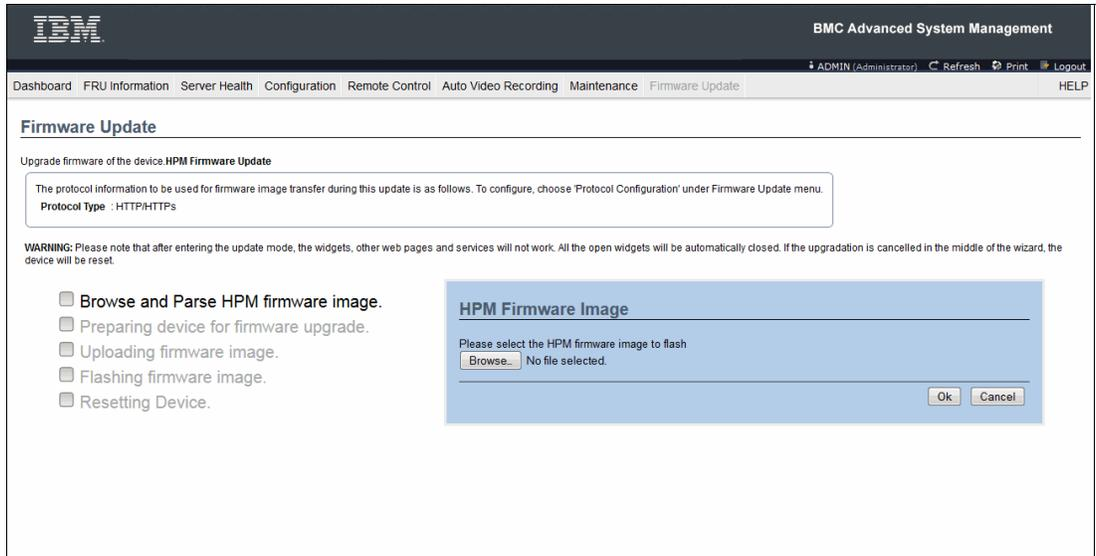

Figure 3-8 Select the firmware image
- Select the firmware update file from your local disk by selecting **Browse and Parse HPM firmware page**, clicking **Browse**, and selecting the file, as shown in Figure 3-8,